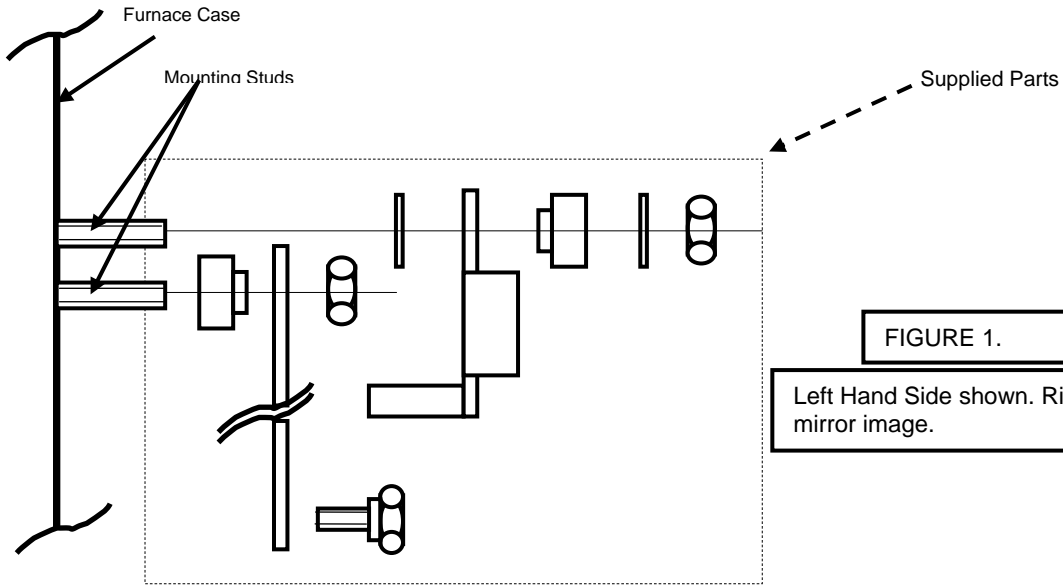

FIGURE 1.
11. Reassemble the mechanism using the parts provided. See FIGURE 1 below to ensure that components are all fitted properly and in the correct order.